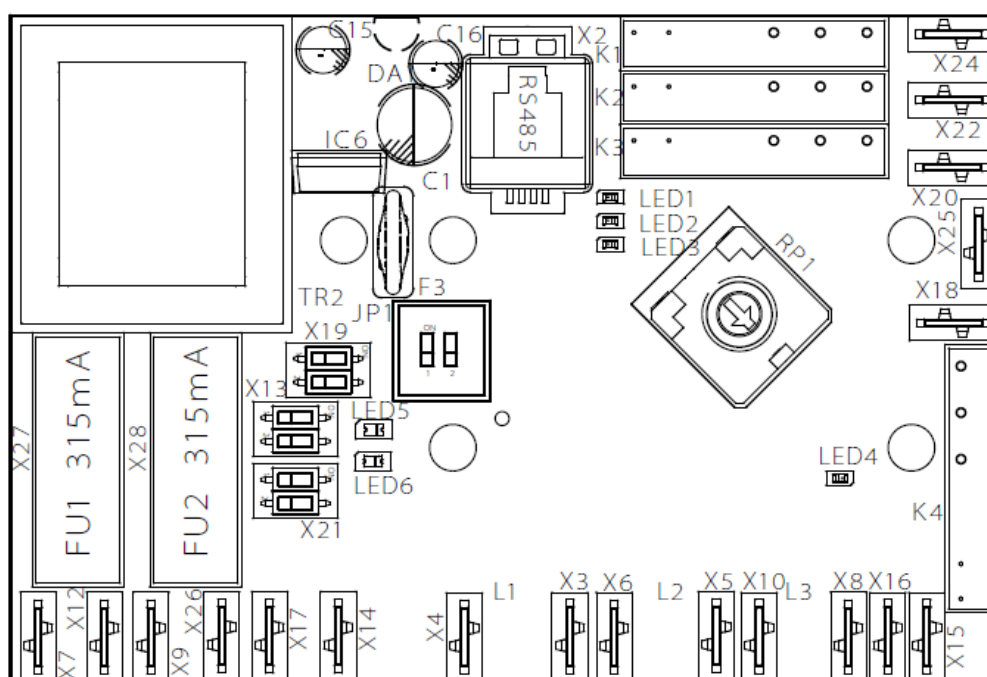

Fig. 11. Print circuit board (PCB) of temperature controller EKR-KN...
Heaters EKA with integrated temperature controller EKR-KN... (See Fig. 11) can be controlled in five different ways depending on control type:
When the heater power supply is switched on, LED 6 on the controller (EKR-KN...) PCB (see Fig. 11) flashes once every 8 seconds if setpoint is 0 °C and every second if setpoint is higher than 0 °C. If controller turns on the heating depending on the demand, LED 5 lights (see Fig. 11).
When the heater power supply is switched on, LED 6 on the controller (EKR-KN...) PCB (see Fig. 11) flashes every second. If controller turns on the heating depending on analog signal, LED 5 lights (see Fig. 11).
When the heater power supply is switched on, LED 6 on the controller (EKR-KN...) PCB (*see Fig. 11*) flashes once every 8 seconds if setpoint is 0 °C and every second if setpoint is higher than 0 °C. If controller turns on the heating depending on the demand, LED 5 lights (*see Fig. 11*).
1. Control by the supply air temperature sensor (TJ-K10K), when the first (1) switch of JP1 (see Fig. 11) is in position OFF. LED 1 flashes once per second. Setpoint temperature (0...30) °C.
2. Control by the supply (TJ-K10K) and by the room (NTC10) air temperature sensor, when the first (1) switch of JP1 (see Fig. 11) is in position ON. LED 1 flashes twice per second. Setpoint temperature (15...30) °C. In this mode is preprogrammed the minimum (15°C) and the maximum (40°C) temperatures of supply air. The room air temperature sensor is mounted in the wired panel TR NTC10.
1. Control by the supply air temperature sensor (TJ-K10K), when the first (1) switch of JP1 (see Fig. 11) is in position OFF. LED 1 flashes once per second. Set point temperature (0...30) °C.